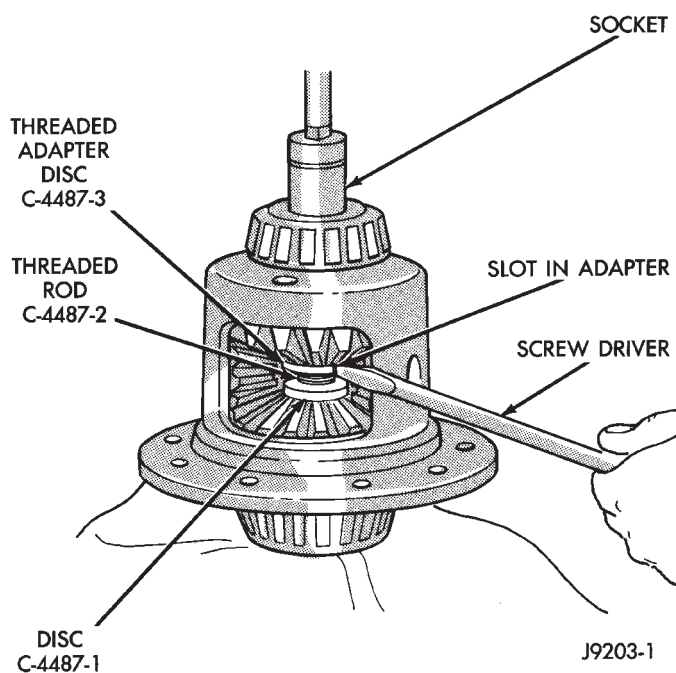

Fig. 46 Threaded Adapter Installation
(7) Assemble Threaded Adapter C-4487-3 into top side gear. Thread forcing Screw C-4487-2 into adapter until it becomes centered in adapter plate.
(8) Position a small screw driver in slot of Threaded Adapter C-4487-3 (Fig. 46) to prevent adapter from turning.